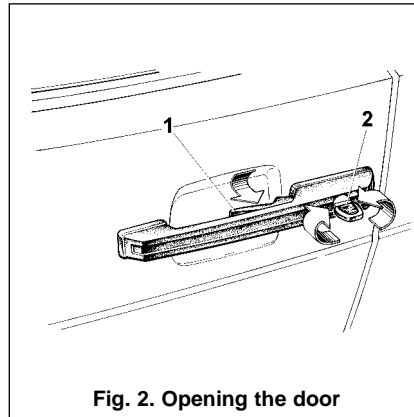

Fig. 2. Opening the door
Press button 1 (Fig. 2) or pull handle 1 (fig. 3) or 4 (Fig. 4) to open a vehicle door. When the lock is engaged, handles will move freely without any effect on the lock.
Use key 2 (Fig. 2) or press button 3 (Fig. 3) to lock a door only when it is closed.